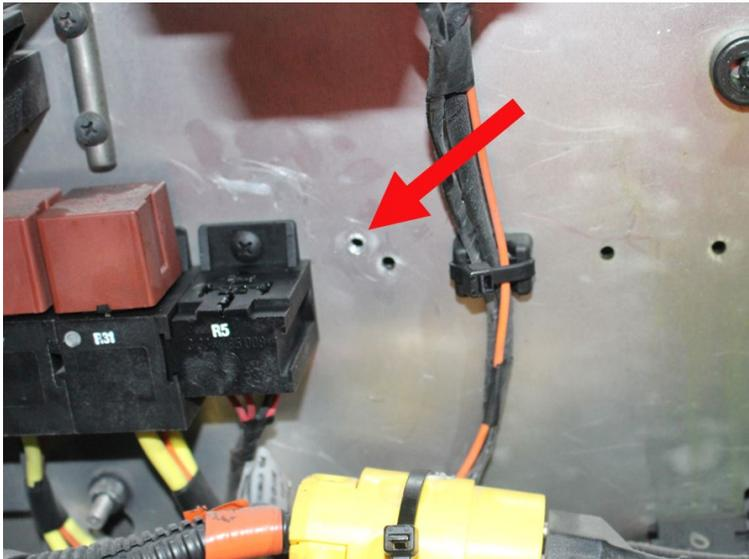
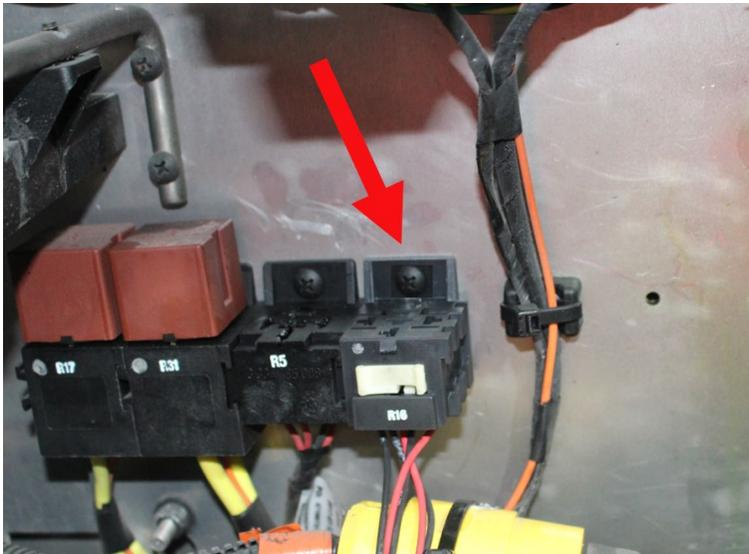

FIGURE 13: RELAY BASE INSTALLATION
FIGURE 14: RELAY BASE & R16 ONCE INSTALLED
1. Install the relay base 561183 in the main power compartment. To do so, first, drill a 1/8 hole through the bulkhead. Secure the relay base using screw 500799 (Figure 13 & Figure 14).